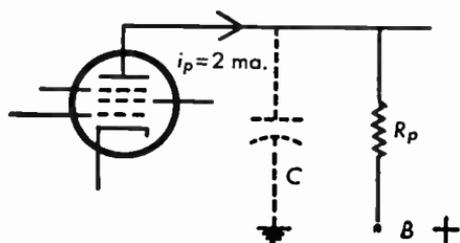

Fig. 11.35 Constant-current tube with resistive-capacitive load.
**11.35** The amplifier of Figure 11.35 has a total shunt capacitance of 40 micromicrofarads. Calculate the output voltage for 1 kilocycle and 1 megacycle,